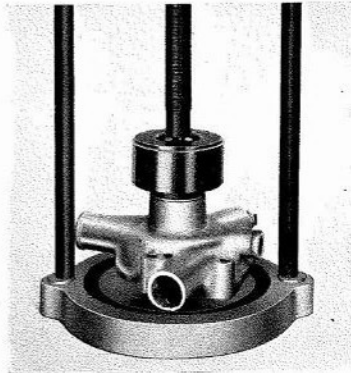

Fig. Q.6.
2. Smear the bearings, and half fill the space between them, with high melting point grease and then press the bearings and distance piece as one assembly into the body, ensuring that the bearing end covers face outwards, i.e. towards the ends of the shaft. See Fig. Q.6.